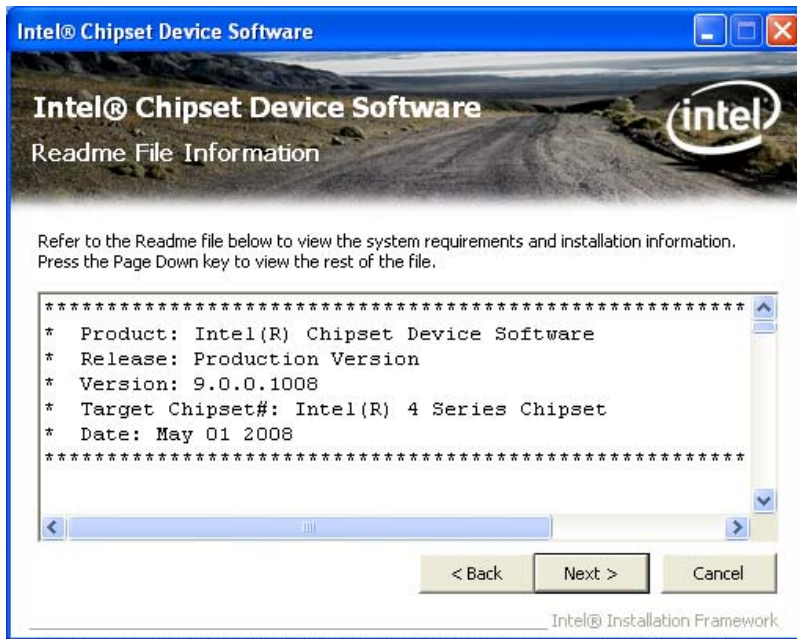

Figure 7-7: Chipset Driver Read Me File
Step 9: The Read Me file in Figure 7-7 appears.